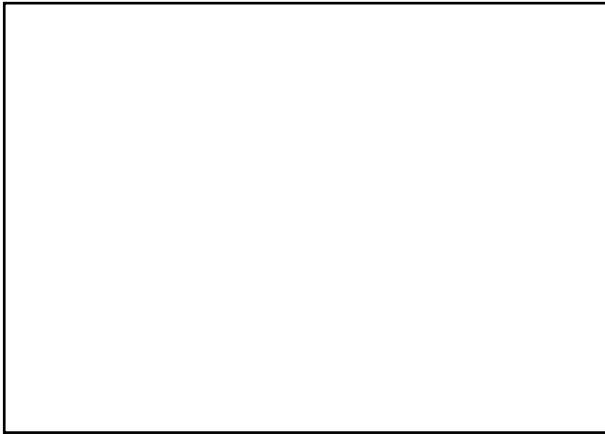

Fig. 1
A diagnosis jack (2) is installed on the right side of the instrument panel (1, Fig. 1).